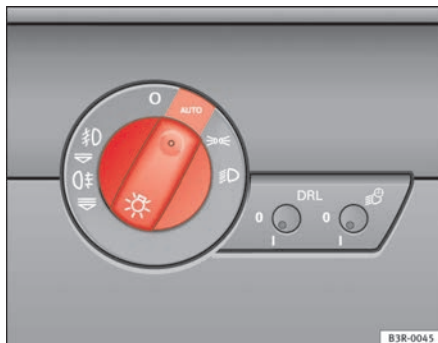

Fig. 84 Detailed view of instrument panel: Light switch
- Turn the light switch ⇒ fig. 84 to the **AUTO** position.